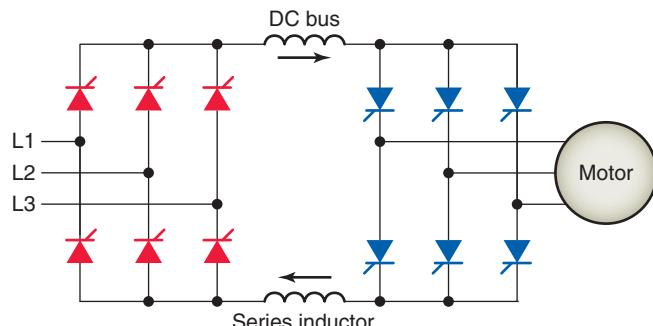

Figure 10-30 Simplified circuit of a current-source inverter (CSI).
- Figure 10-30 shows the simplified circuit of a current-source inverter (CSI).